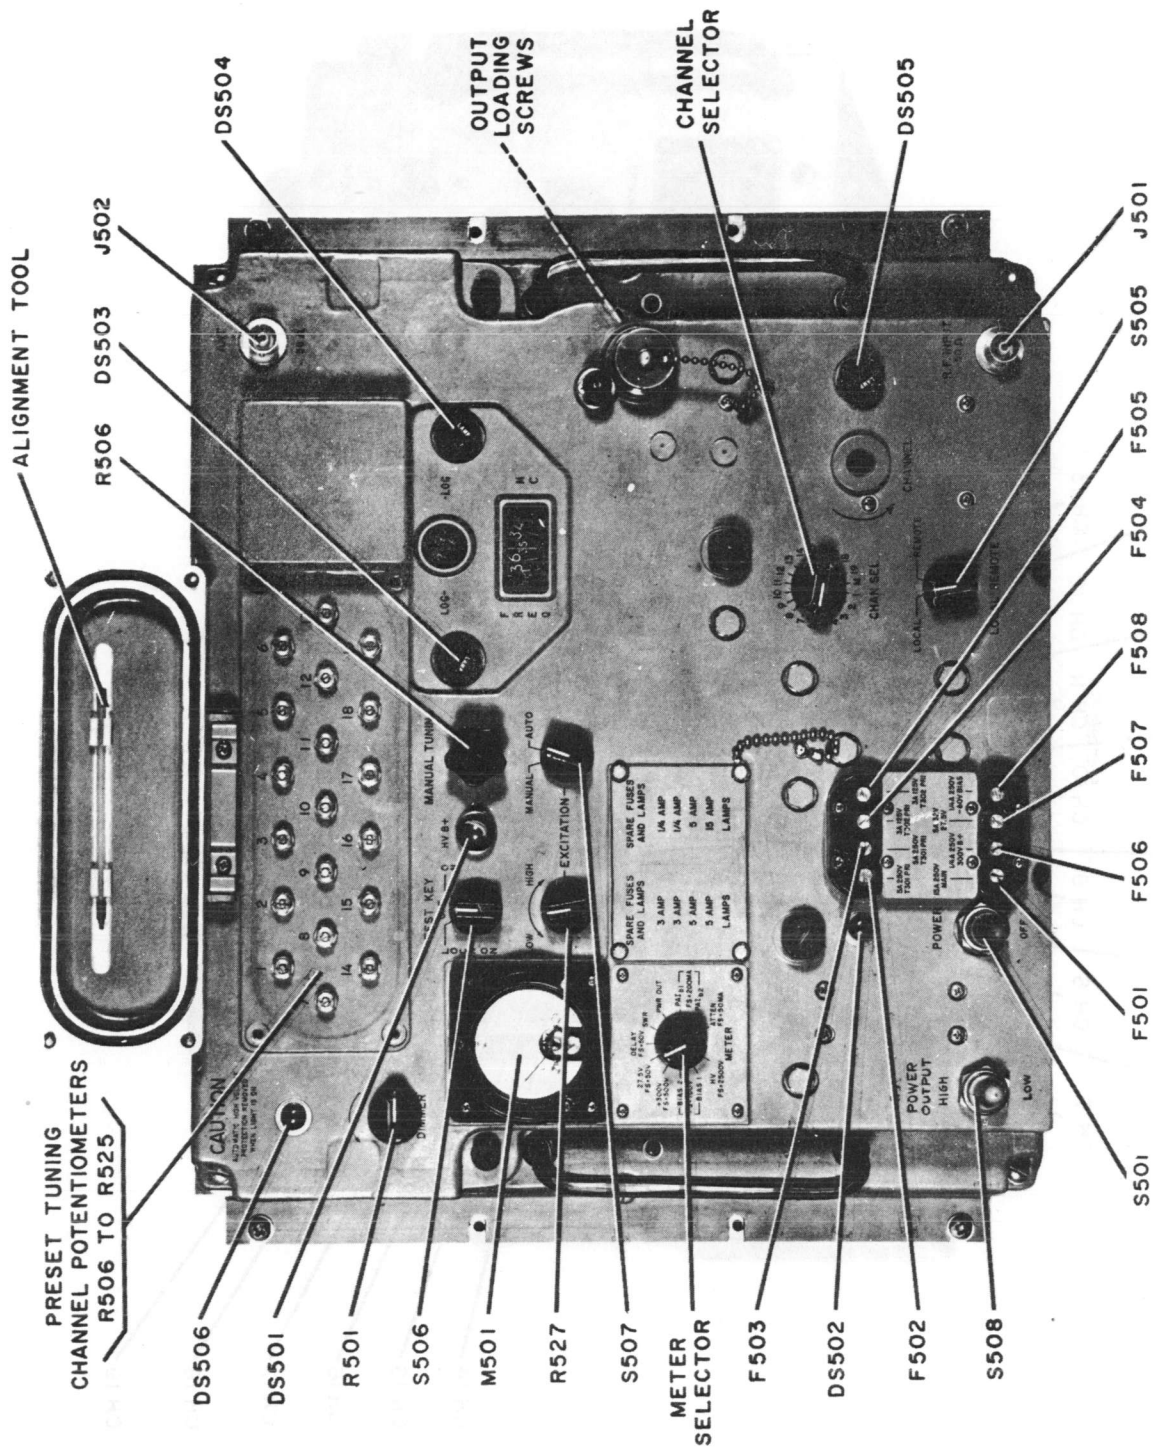

Figure 6-2. Preset Tuning Potentiometer, Radio-Frequency Amplifier AM-1565/URC
3. Loosen the four screws that secure the channel potentiometer cover, and lift the cover upward. (see figure 6-2).